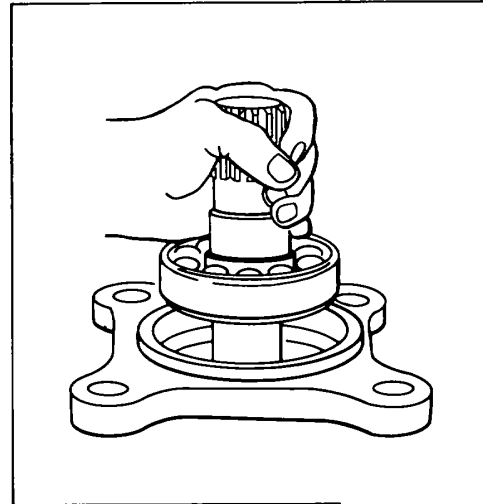

Figure 129.
21. Remove pump shaft and assembled parts (1, 30, 55, 49 and inner race of 50) by pulling straight up from mounting flange (2), as shown in Fig.129.